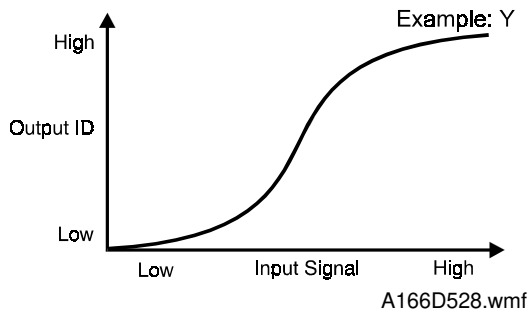
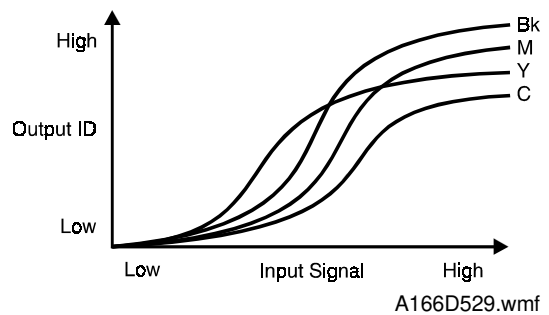
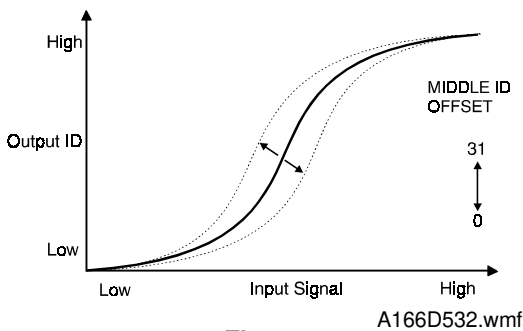
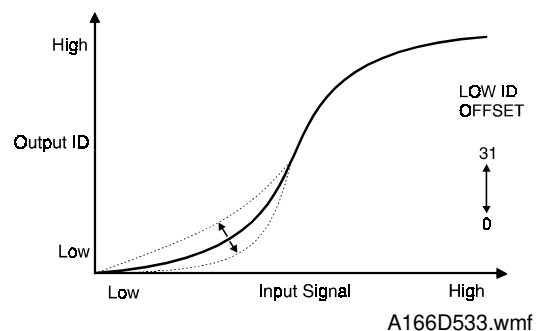

Fig. 1
Fig. 2
Fig. 5
Fig. 6
When a black image is copied, the ID values for all colors are equal (figure 1). For each color, the ID value is reduced by the UCR ratio (70% in the example). A black ID value equal to the 70% reduction is added to compensate for the color ID reduction (figure 2).
2. The part with the equal values is treated as a black image (see figures 1 and 2), using the 70% UCR ratio. The resulting amounts are then added to the remainders from step 1 (figure 5). The final result gives us the ID value for each color and for black (figure 6).
Ideally, the gamma curves for Yellow, Magenta, Cyan, and Black should be identical, as shown in figure 1. However, they are not, because electrical components always vary slightly, resulting in varying gamma curves, as shown in figure 2.
The Middle ID mode should be used to adjust the image density between Level 3 and Level 7 of the color gradation scale on the C-4 test chart (figure 5).
The Low ID mode should be used to adjust the image density between Level 2 and Level 5 of the color gradation scale on the C-4 test chart (figure 6).